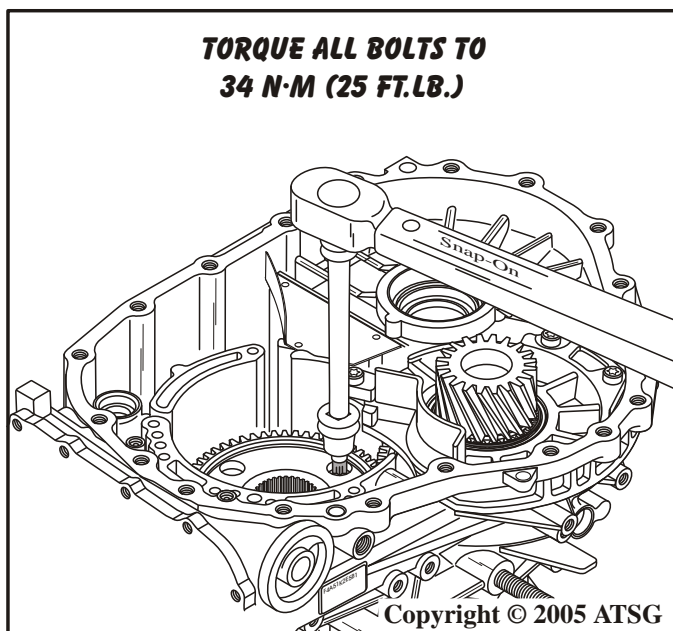

Figure 161
20. Torque transfer gear drive gear retaining bolts to, 34 N·m (25 ft.lb.), as shown in Figure 161.